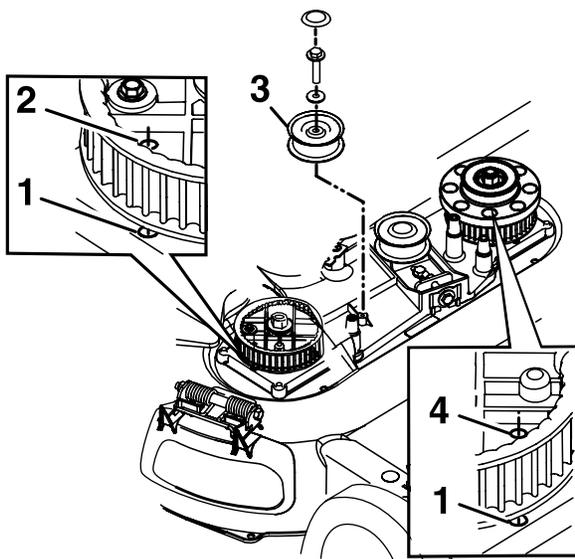

Figure 45
- 8. Remove the fixed idler pulley and the hardware (Figure 45).
- 10. Align the holes in the right and left sprockets with the holes in the housing as shown in Figure 45.